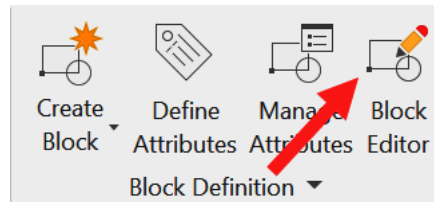

Figure 12.15: The Block Editor icon on the Block Definition panel
1. To create a new block in **Block Editor**, you can directly use the **Block Editor** icon in the **Block Definition** panel on the **Insert** ribbon tab, as shown in *Figure 12.15*.